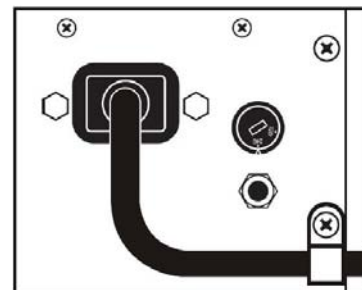

Figure 2-6
1. Confirm the monitor power switch is in off (O) position.
2. Connect the power cord to the power connector on the rear panel of the monitor and secure the power cord with the P Clamp (See Figure 2-6).
3. Verify that the AC voltage selector on the rear panel of the monitor is set to the correct country-specific voltage (See Figure 2-6).